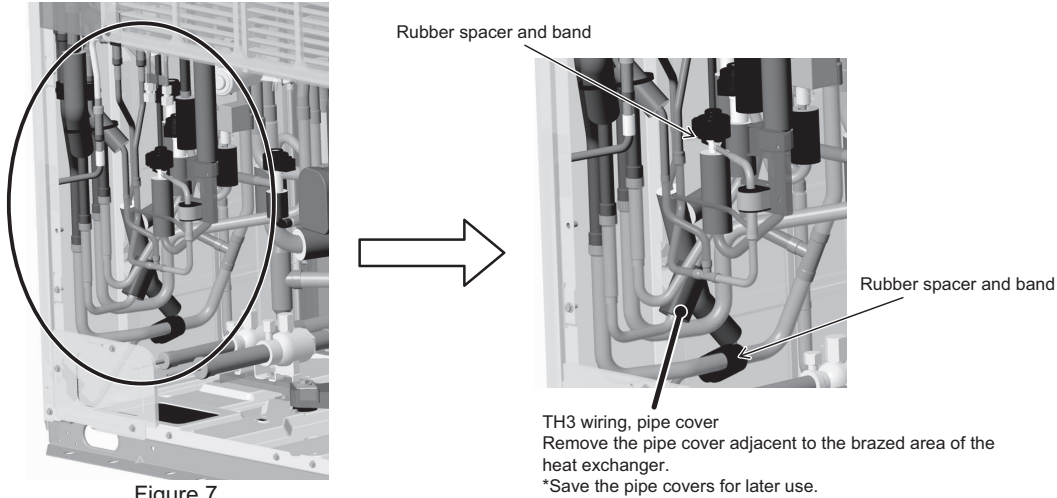

Figure 7
(7) Cut the bands on the TH3 wiring, and remove the pipe covers and rubber spacer on the heat-exchanger side. (See Figure 7.)